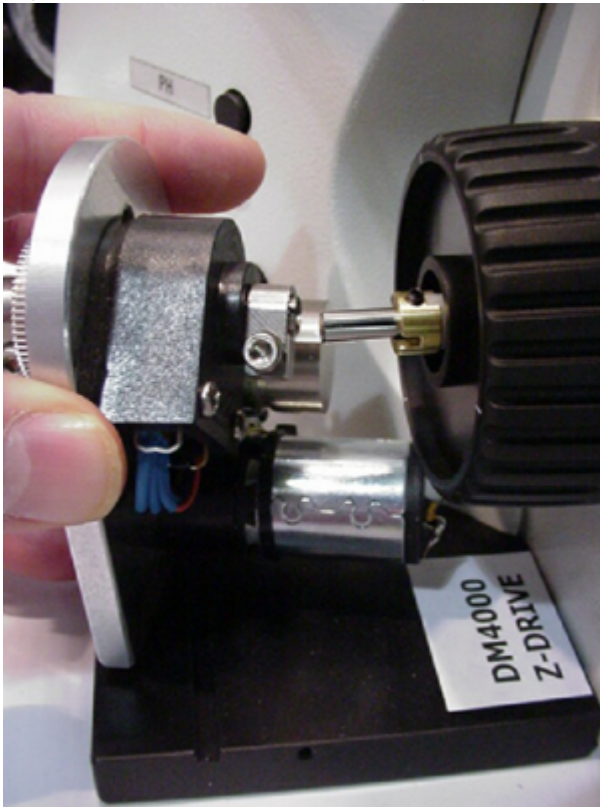
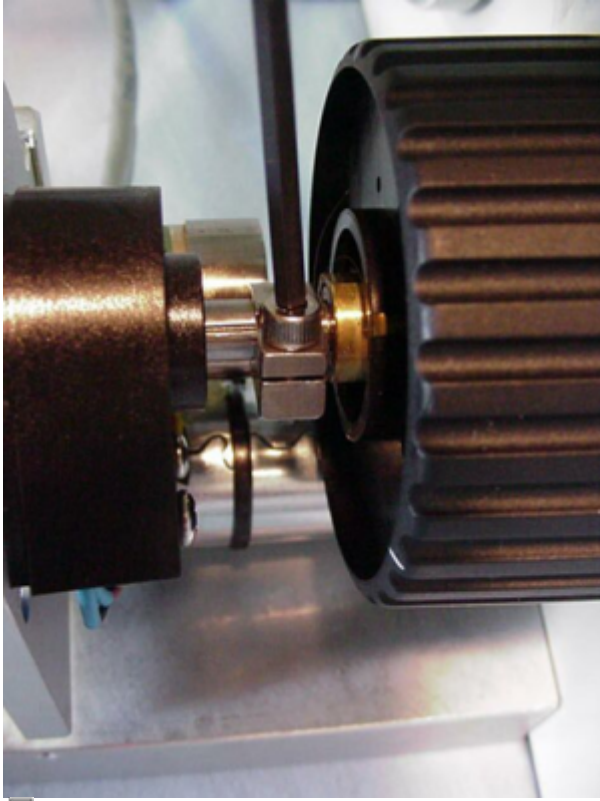

Figure 7: Installing the Z-drive.
Figure 8: Tightening the Z-drive clamp
- b) Locate the ASI fine focus motor drive and vertical adjustment screw (screw removed to remove the Z-drive when the base plate was installed). Loosen the screw that is on the clamp on the end of the drive shaft. Align the drive shaft on the ASI drive with the microscope fine focus shaft, and slide the motor drive over the fine focus shaft as shown in figure 7. Use the 7/64" Allen wrench to tighten the clamp as shown in figure 8.